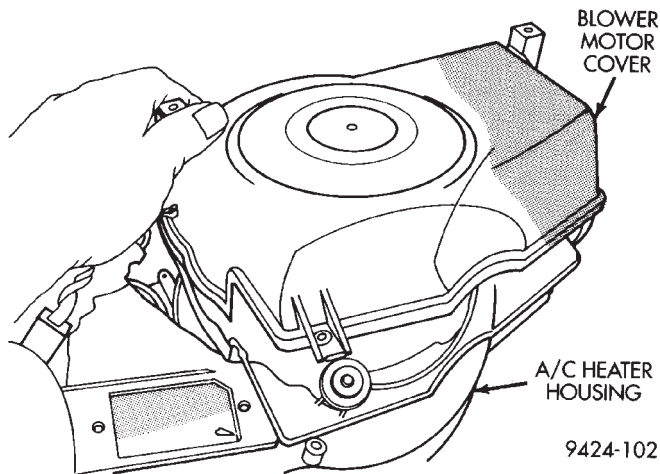

**Fig. 91 Blower Motor Cover**
(18) Thread the blower motor wiring through the blower motor cover. Install the blower motor cover (Fig. 91).